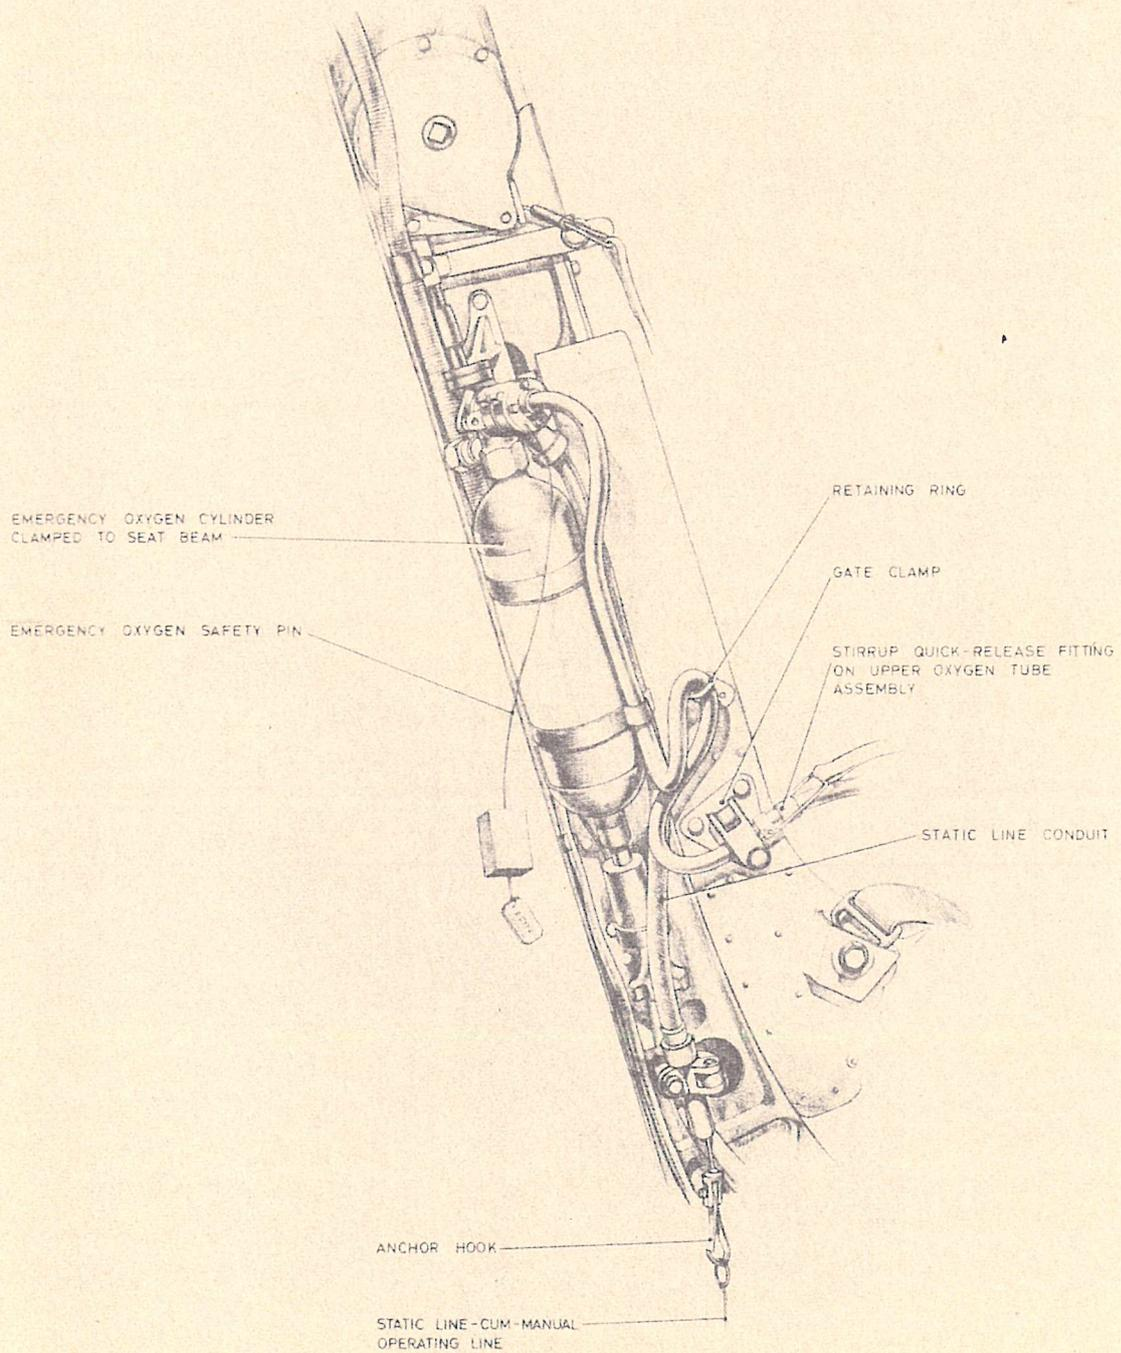

Fig. 1. Arrangement of emergency oxygen supply
22. The following procedure is to be used when equipping the seat: refer to fig. 1 to 3 for detail as necessary:-